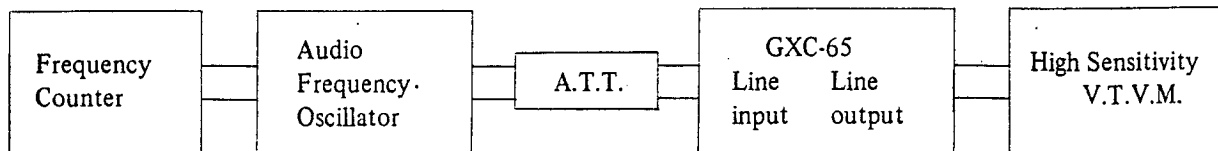

Fig. 25
- Connect the various measuring instruments as shown in Fig. 25.
- 1) Connect the measuring instruments as shown in Fig. 25.